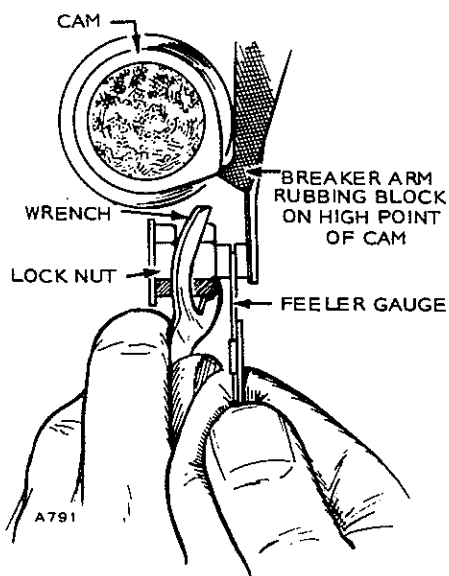

FIGURE 10-56. SETTING DUAL BREAKER POINTS
Ignition timing adjusts the distributor so the spark at each cylinder fires at the correct time for maximum power (25° BTC on each compression stroke). The dual points ignition timing system may be timed either with the engine stopped or running. Before timing the ignition, be sure both sets of breaker points are clean and properly adjusted to .018 to .022 inch (0.46 to 0.56 mm) Figure 10-56. Breaker point set No. 1 opens to fire cylinders 1 and 4 simultaneously and point set No. 2 opens to fire cylinder 3 and 4 simultaneously. One cylinder fires on the compression stroke while the other fires ineffectively on the exhaust stroke. Time engine as follows:
8. Rotate drive shaft to obtain maximum breaker gap and set gap for .020 inches (0.51 mm), Figure 10-56.